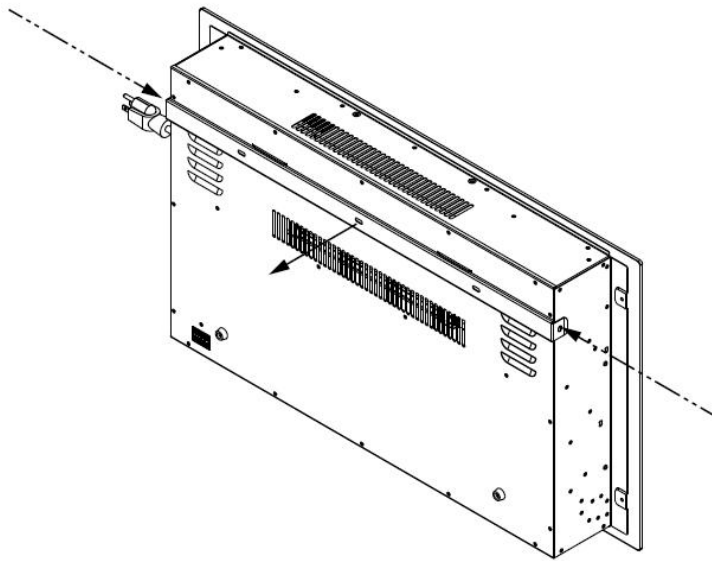
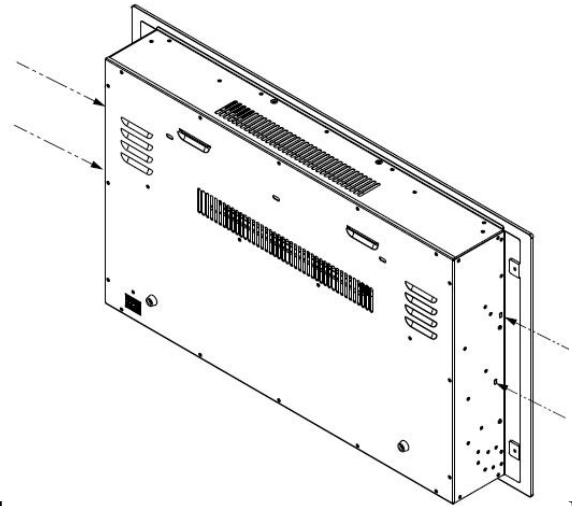

Fig.1
Fig.2
C. Place unit face down on a soft, non abrasive surface. Remove the bracket from the back of the unit by removing the screws, refer to Figure 1. Remove four pcs of silver screws at both sides, refer to Figure 2.